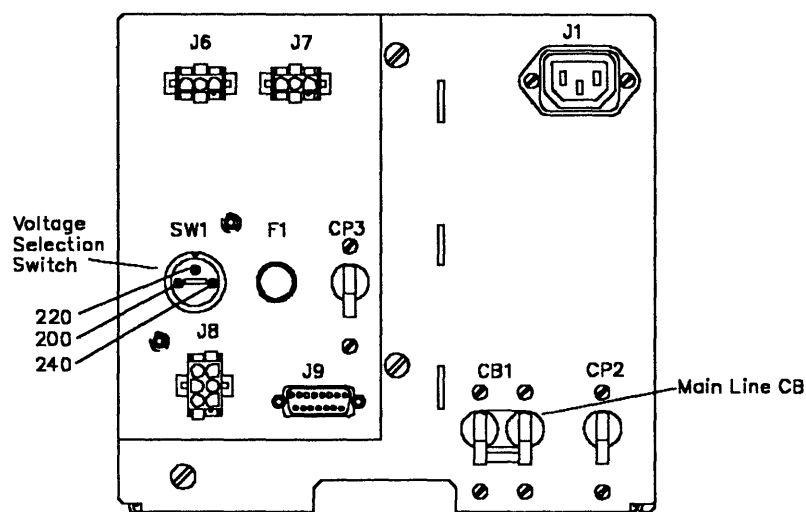

Figure 2-1. Primary Power Box (Front View)
- Step 4. ____ On the front side of the primary power box, set the voltage selection switch SW1 (see Figure 2-1 on page 2-2) according to the following table:
- Step 1. ____ Ensure that the customer's branch circuit breaker which feeds the 3745 receptacle is in the **OFF position**, and that CB1 is switched to **OFF** in front of the 3745 primary power box (see Figure 2-1 for location).
- Step 1. ____ Ensure that CP2 and CP3 are set to the **ON** position (refer to Figure 2-1 on page 2-2).